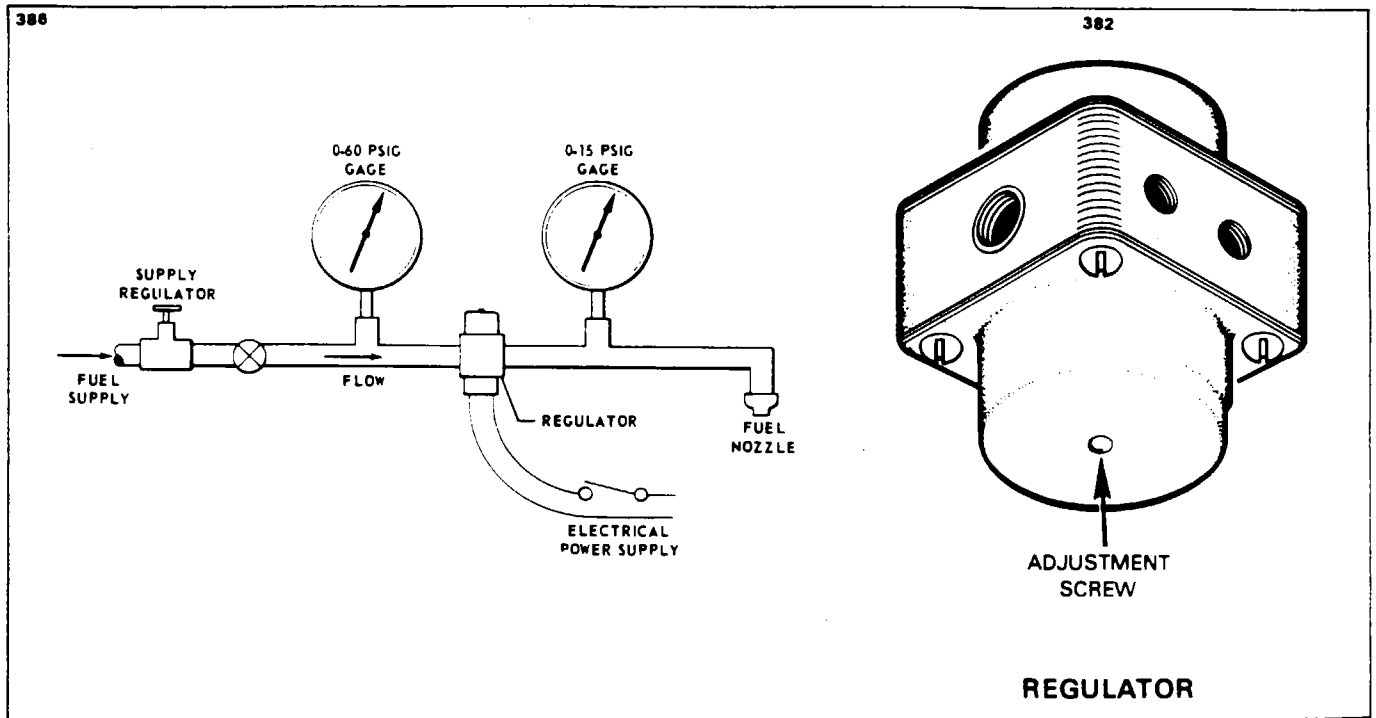

Figure 21-10. Test Setup for Fuel Regulator and Shutoff Valve
1. Install the regulator in a test stand similar to that shown in Figure 21-10.